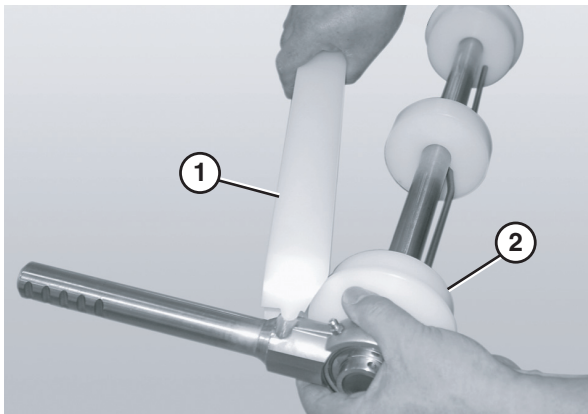

Figure 71
3. Attach the flanged pucks (**Figure 71, item 2**) and bearing shaft assemblies to the idler shaft.
4. Attach the guard bar (**Figure 71, item 1**).